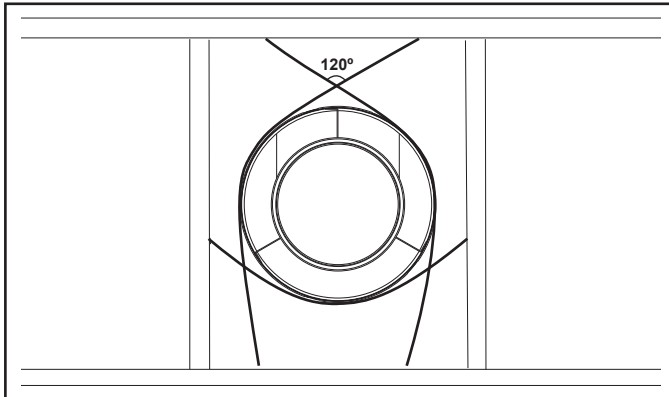

Figure 7.5 - Securing Vertical Pipe Sections
- Vent supports or plumbers strap (spaced 120° apart) may be used to support vent sections. See Figures 7.5 and 7.6.